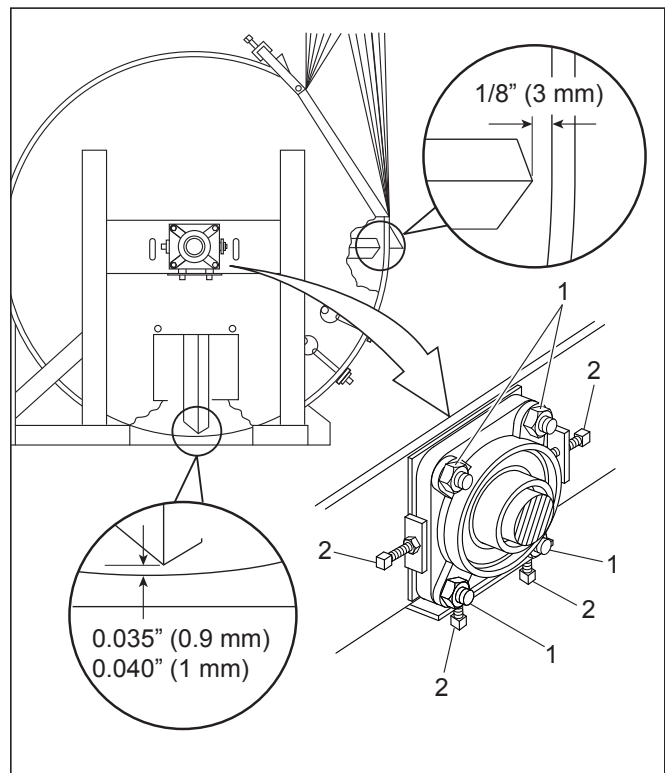

Figure 51 Fan adjustment
## FAN ADJUSTMENT - FIGURE 51
3. Use a 1/8" thick spacer (item 4) to adjust the blades. Insert the spacer between the blade and the drum contour as shown in figure 51, then tighten the blade in place. Tighten the bolts to a torque of 140 to 150 lbs/ft.
4. Put spout back in place while making sure to clean the slots on the contour (item 5), specially at the bottom of the Blower. Tighten the drum contour tightly once finished.